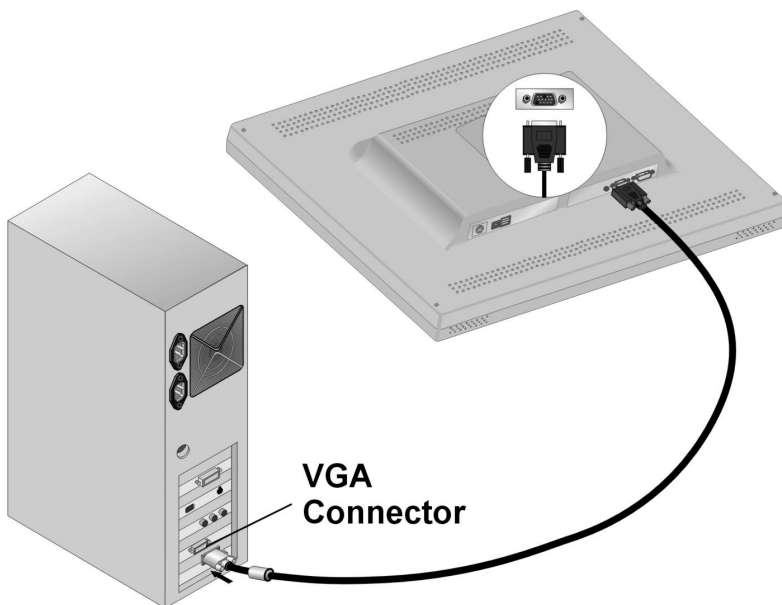

Figure 1-5: Connecting the LCD Monitor to the PC
2. Connect one end of the VGA signal cable to the PC's D-sub VGA port and the other end to the monitor VGA port. Please refer to *Figure 1-5*.